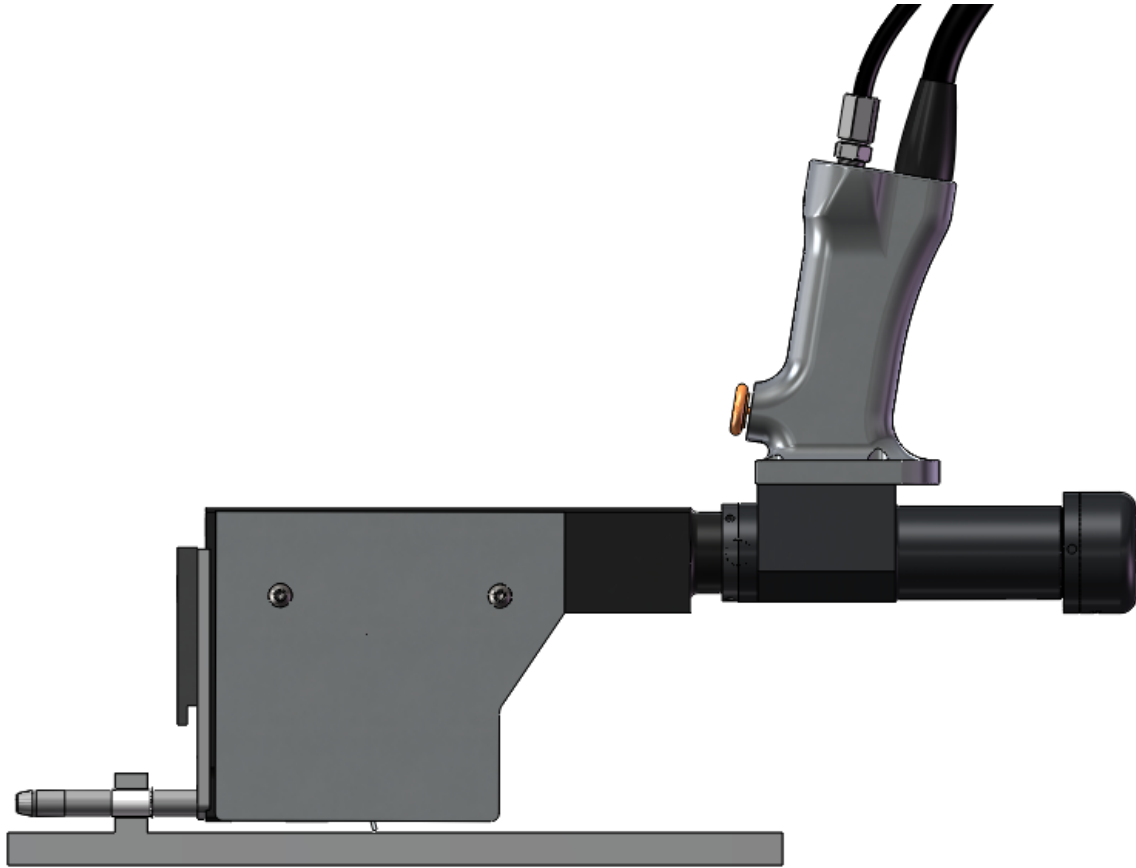

Figure 6-3
3. Position the LB/LBOA assembly and hook the LBOA slide assembly onto the mandrel tang (Figure 6-3).